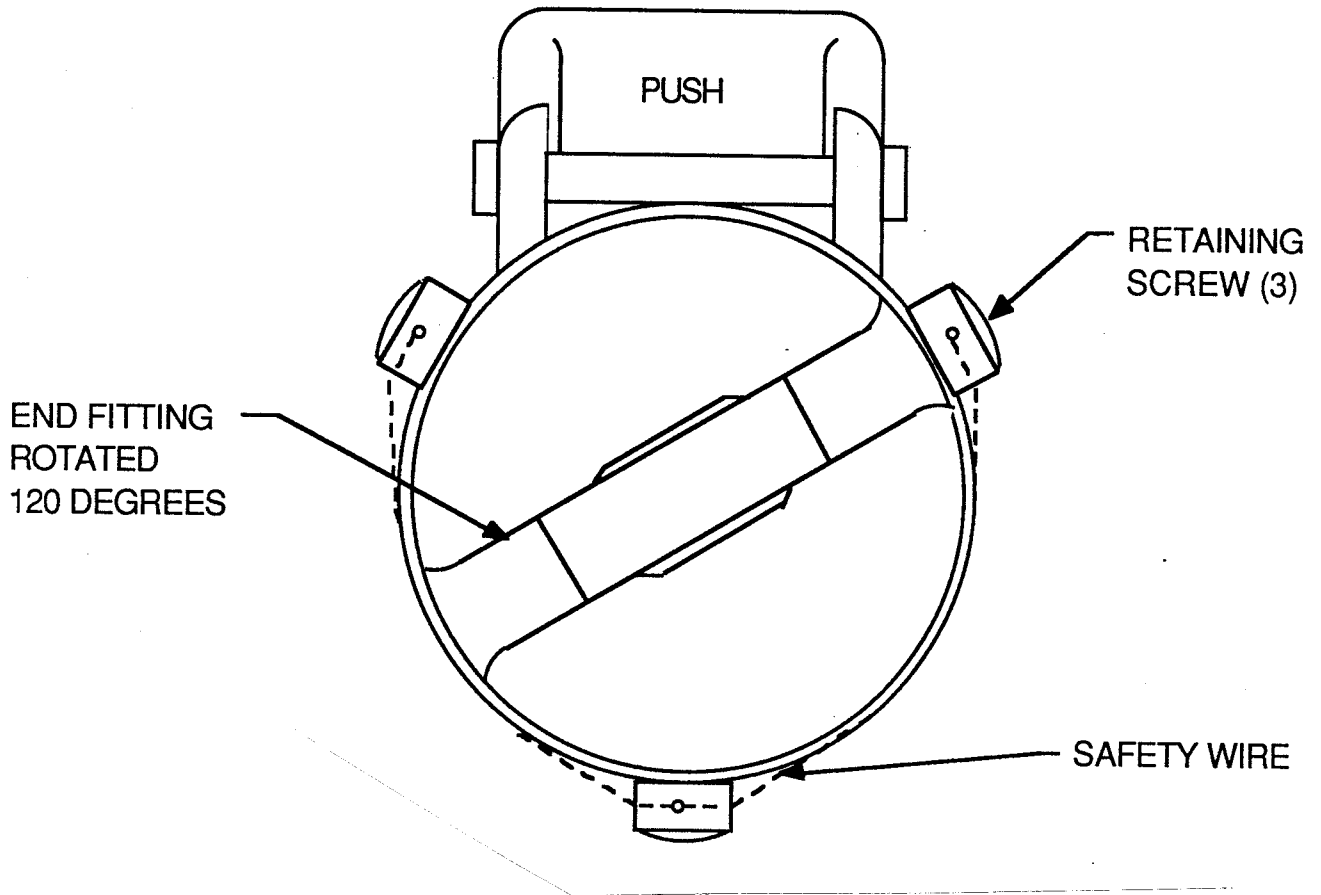

FIGURE 2 - MODIFIED A3068-1M END FITTING ROTATED 120°
### B. Assembly (See Figure 2)
- (1) Rotate end fitting 120 degrees as shown in Figure 2.
- (2) Apply Loctite 222 to threads of three retaining screws removed in Step IIA (2). Insert three retaining screws and tighten turning clockwise to a torque of 35 in. lbs.
- (3) Safety wire three retaining screws using MS20995C32 safety wire.